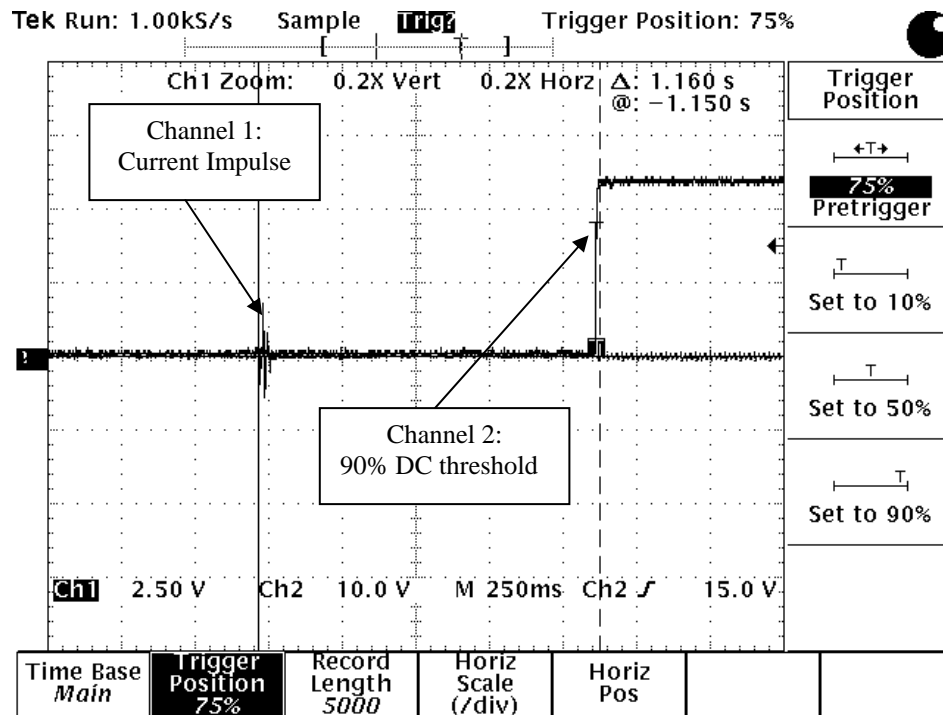

Figure 6 : Startup Time
4.9.6. Find out where you are within cycle, to make sure you have zero crossing correct to within  $\pm 1$  milliseconds. Turn the AC supply “on” and measure the time from the first inrush current impulse to the point where the DC output voltage reaches the minimum operating specification. Refer to Figure 6.